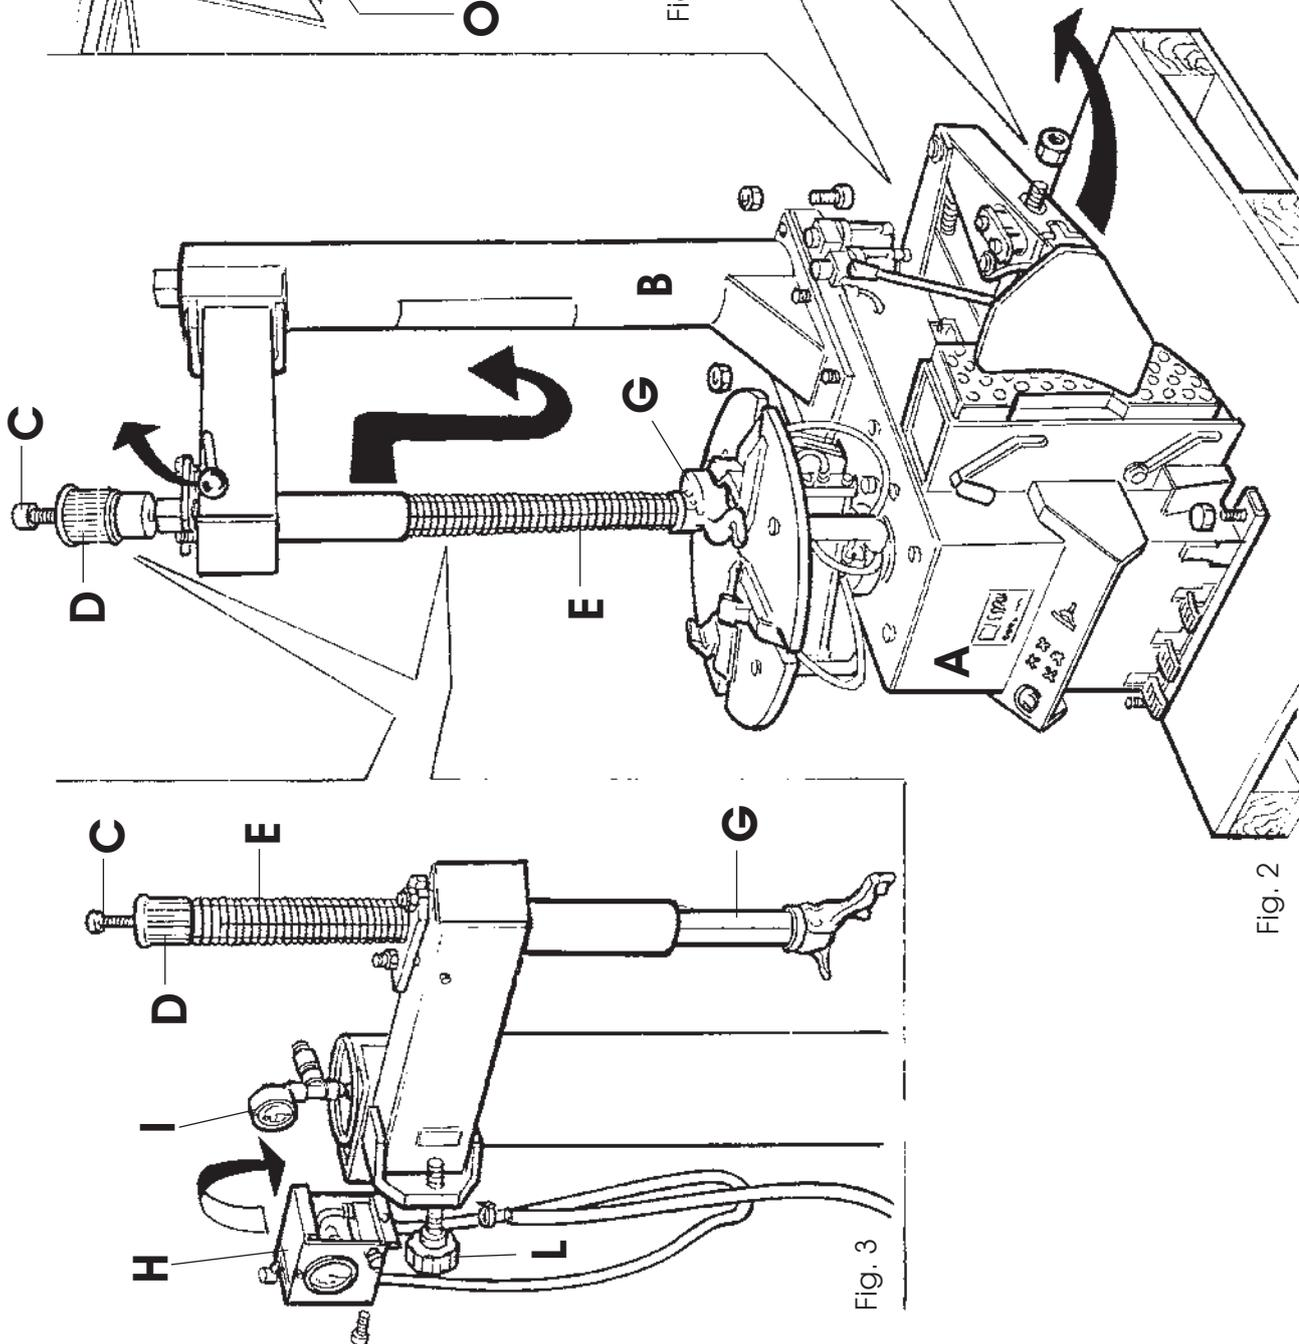
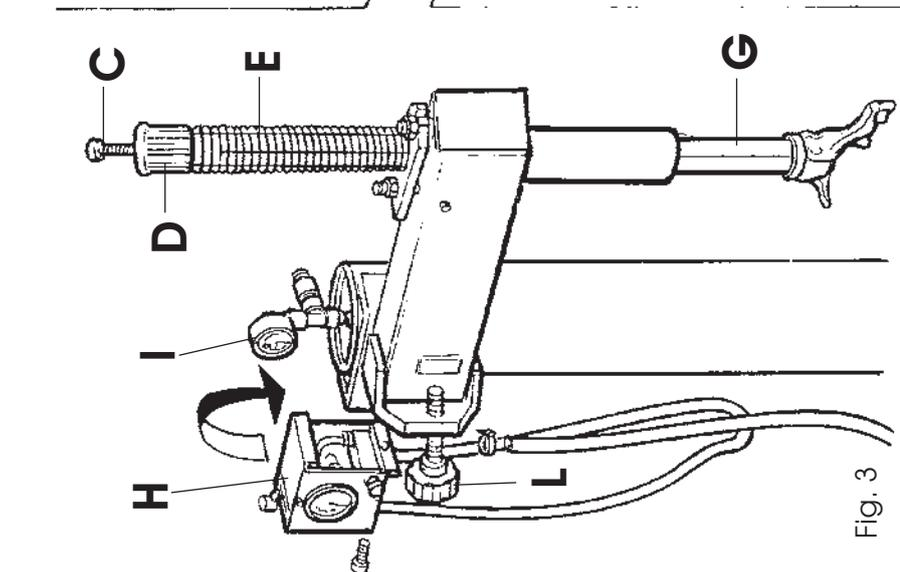

Fig. 2
Fig. 3
- ❑ Lift tower "B", locate it on cabinet "A" and secure it with the screws and nuts provided as per Fig. 2.
- ❑ Remove the screw "C" securing the knob "D" and vertical slide "G" (Fig.2); pull the vertical slide downward from the swing arm "F", remove spring "E" from the vertical slide, re-insert (the same way round) vertical slide "G" in swing arm "F" and insert spring "E" (Fig.3); reassemble the knob and the screw (Fig.3).
- ❑ Mount the enclosure with pressure gauge "H" to the tower (Fig.3), and secure it.
- ❑ Remove the plug and screw in the valve + pressure gauge unit "I" (Fig.3).
- ❑ Screw down the adjustment knob "L" (Fig.3).